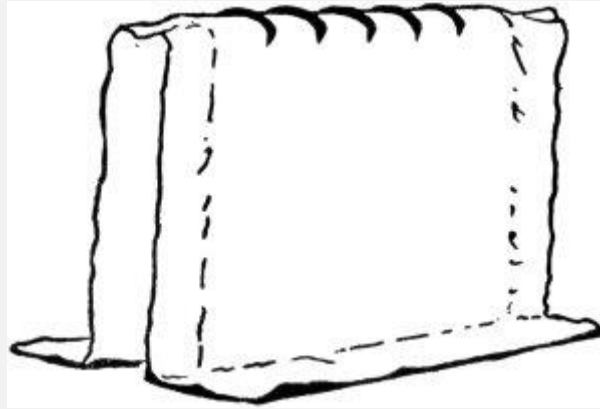
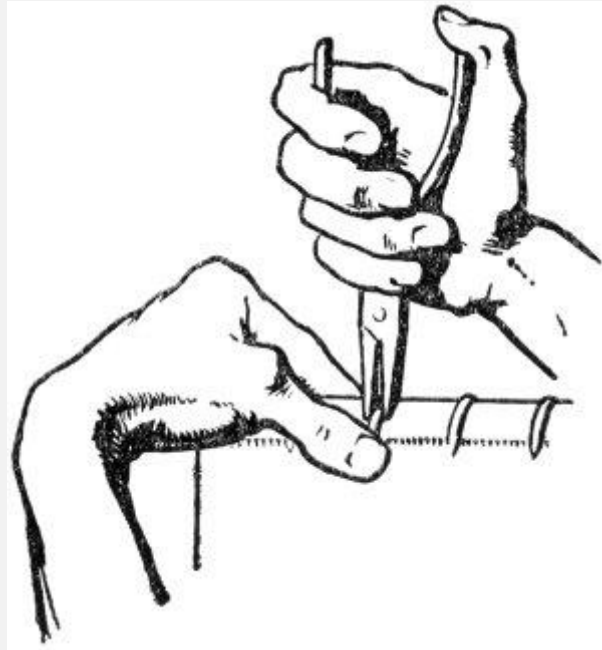
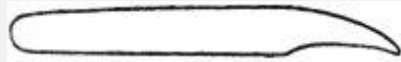
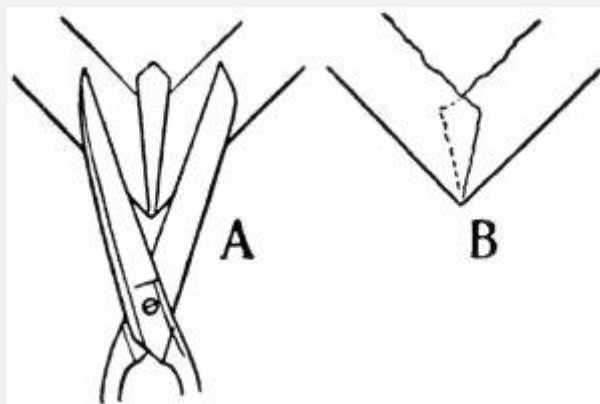

Fig. 62.
Fig. 63.
Fig. 64.
Fig. 65.
Take the pasted cover and look to see which is the better side of the leather. Lay the front of the book down on this exactly up to the marks that show the beginning of the turn-in. Then draw the leather over the back and on to the other side, pulling it slightly, but not dragging it. Then stand the book on[162] its fore-edge on a piece of waste paper, with the leather turned out on either side, as shown at fig. 62, and nip up the bands with nicked band nippers (see fig. 63). After this is done there will probably be a good deal of loose leather on the back. This can be got rid of by dragging the leather on to the side; but by far the better plan, when the back is large enough to allow it, is to work up the surplus leather on to the back between the panels. This requires a good deal of practice, and is very seldom done; but it can be done with most satisfactory results. The book should now have the leather on the back[163] stretched lengthways to make it cover the bands, but not stretched the other way, and the leather on the boards should lie perfectly flat and not be stretched at all. The leather on the fore-edge of the board is then rubbed with the hand on the outside, and then on to the edge, and then on the inside. The edge and the inside are smoothed down with a folder, and any excessive paste on the[164] inside squeezed out and removed. When the fore-edge of both boards has been turned in, the head and tail must also be turned in. A little paste is put on to that part of the leather that will turn in below the headband, and this portion is neatly tucked in between the boards and the back. The turned-in edge must lie quite evenly, or it will result in a ridge on the back. The leather is turned in on the two boards in the same way as described for the fore-edge, and the edge rubbed square with a folder. At fig. 64 is shown a convenient form of folder for covering. At the corners the leather must be pulled over as far as possible with two folders meeting at the extreme point, the object being to avoid a cut in the leather at the corner of the board. The folds so formed must be cut off with the scissors (see fig. 65, A), then one edge tucked neatly under the other, (B). Care must be taken throughout not to soil the edges of the leaves.